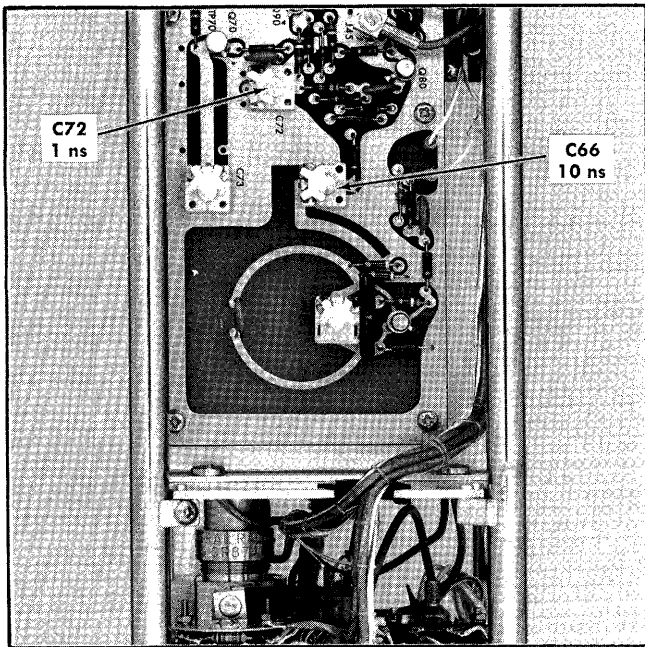

Fig. 6-20. Location of amplitude adjustments for steps 11 and 12.
c. If the peak-to-peak amplitude is not 100 mV ±20% (5 cm ±1 cm), adjust C66 (see Fig. 6-20 for location) for an amplitude of 5 cm ±1 cm.
**12. Adjust 1 ns Period Amplitude, C72** ❶
c. If the amplitude of the Sine Wave display is  $5\text{ cm} \pm 1\text{ cm}$  ( $100\text{ mV} \pm 20\%$ ) no adjustment is recommended as a change in capacity of C72 (location shown in Fig. 6-20) especially near minimum, will affect the frequency of the 1 ns period. If adjustment of C72 is necessary to obtain a display amplitude of  $5\text{ cm} \pm 1\text{ cm}$ , repeat step 10.